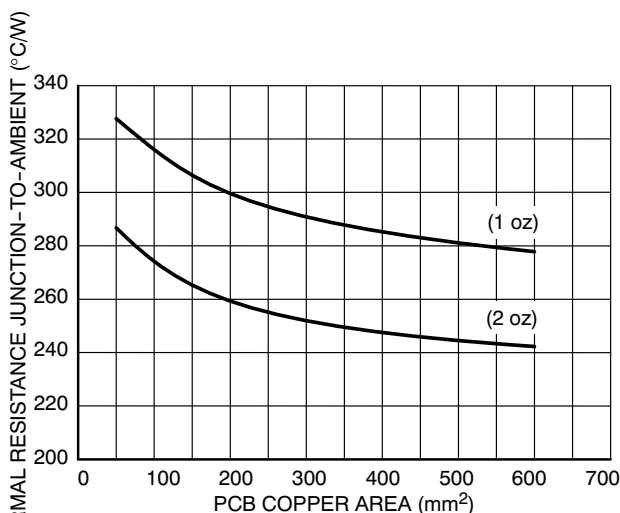

Figure 26. RthJA vs. PCB Copper Area
Since TJ is not recommended to exceed 125°C, then the NCP629 soldered on 645 mm2, 1 oz copper area, FR4 can dissipate up to 360 mW when the ambient temperature (TA) is 25°C. See Figure 26 for RthJA versus PCB area.